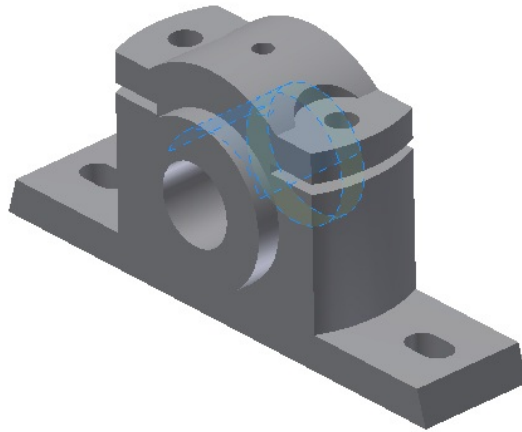

***Figure 9-85** Selecting the axes for applying the **Mate** constraint*
2. Invoke the **Place Constraint** dialog box. In this dialog box, the **Mate** button is chosen by default. Select the axis of the hole on the cap as the first selection and then select the axis of the hole in the Brasses as the second selection, as shown in Figure 9-85. Next, choose **OK** to apply the constraint and exit the **Place Constraint** dialog box.